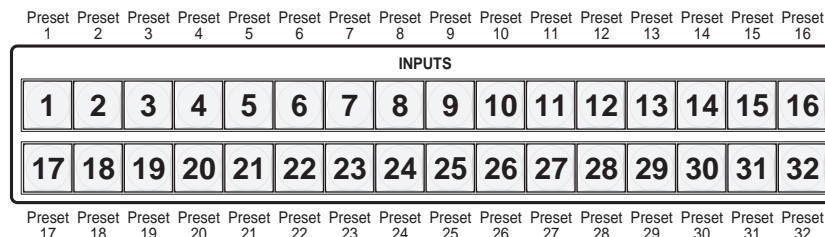

Figure 42. Preset Locations on the HDXP 3232, 3216, and 1616
- Figure 42 shows the presets associated with the input and output buttons on each HDXP model. (On the HDXP 1616, which has only 16 input connectors, input buttons 17 through 32 are used for presets, but not for input selection.)